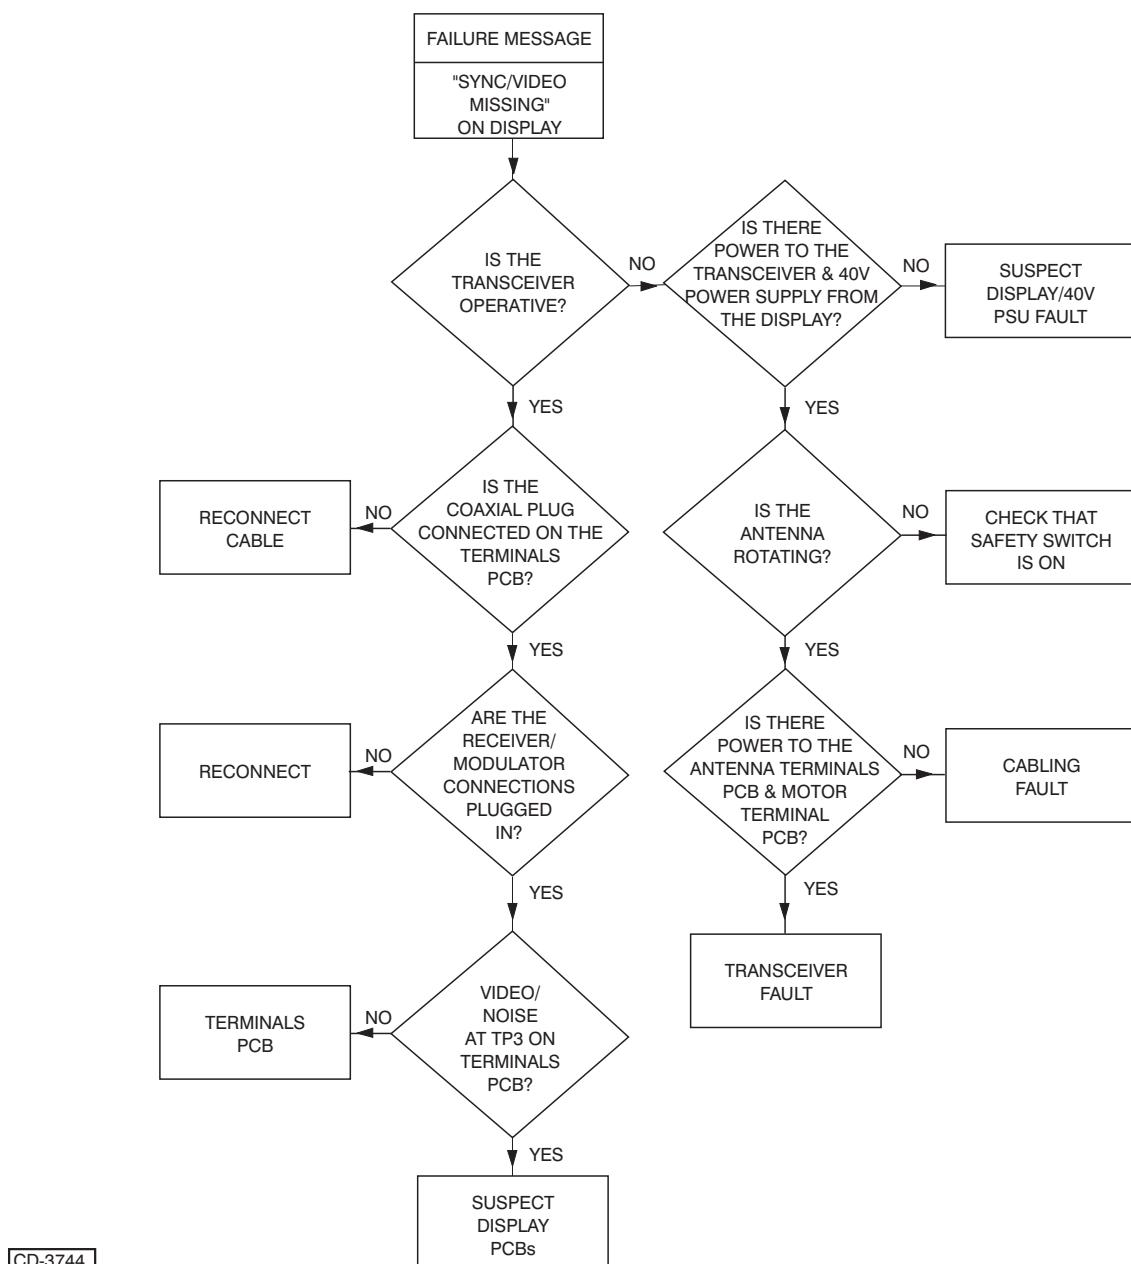

Figure 5b - Transceiver Fault Diagnosis (No Sync/No Video)
- 13 The Algorithms detailed in Figures 5b to 7b provide an aid to fault diagnosis in the transceiver. Entry to the algorithms is via Failure Messages generated at the display.
- 16 Refer to Figures 5b to 7b, for fault diagnosis algorithms associated with these failures.